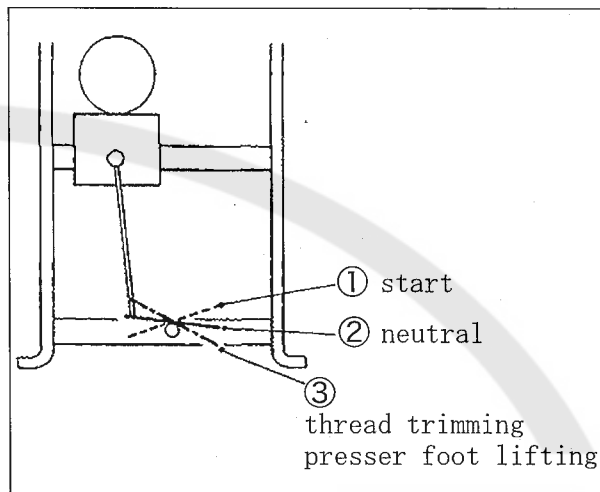

Fig. 1
- (1) Place a fabric under the presser foot and toe down the pedal. (Fig. 1 ①)
- (2) Release the pedal. (Fig. 1 ②)
- (3) Heel back the pedal. (Fig. 1 ③)
- (4) Release the pedal. (Fig. 1 ②)